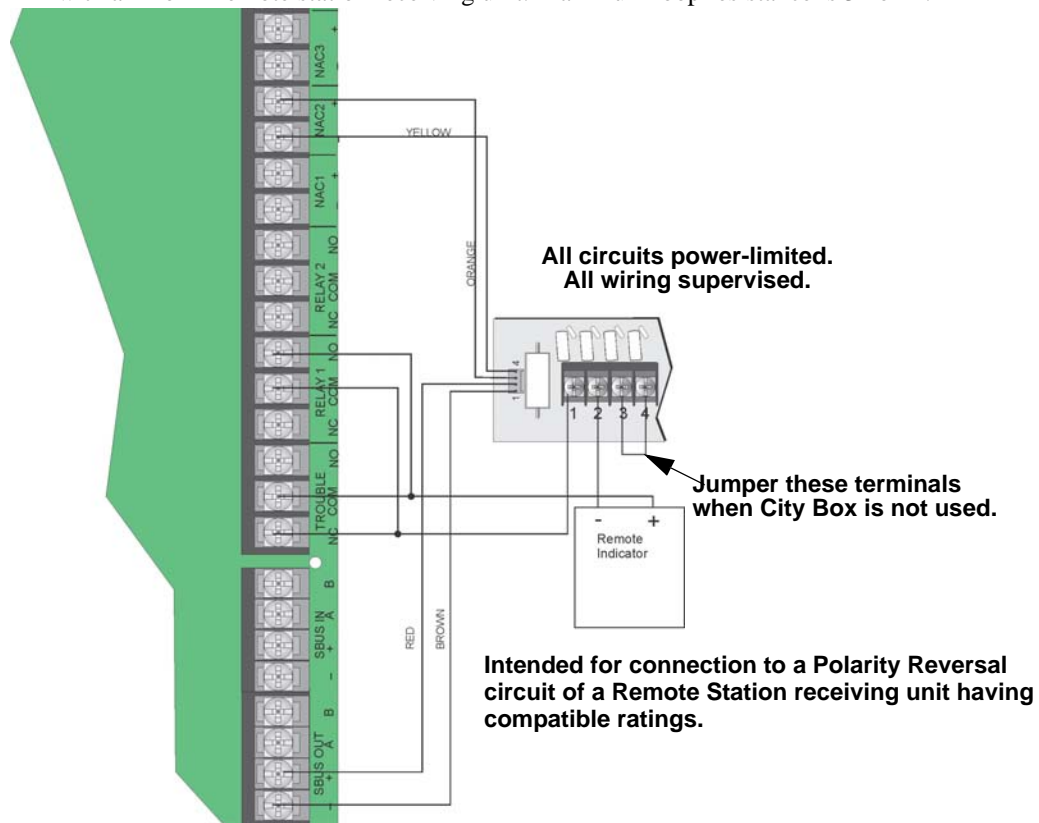

Figure 4-57 Polarity Reversal Connection Using the 5220 Module
2. Wire the 5220 to the control panel using the four-wire pigtail provided as shown in Figure 4-57. This diagram also shows how to connect the 5220 to the remote indicator.